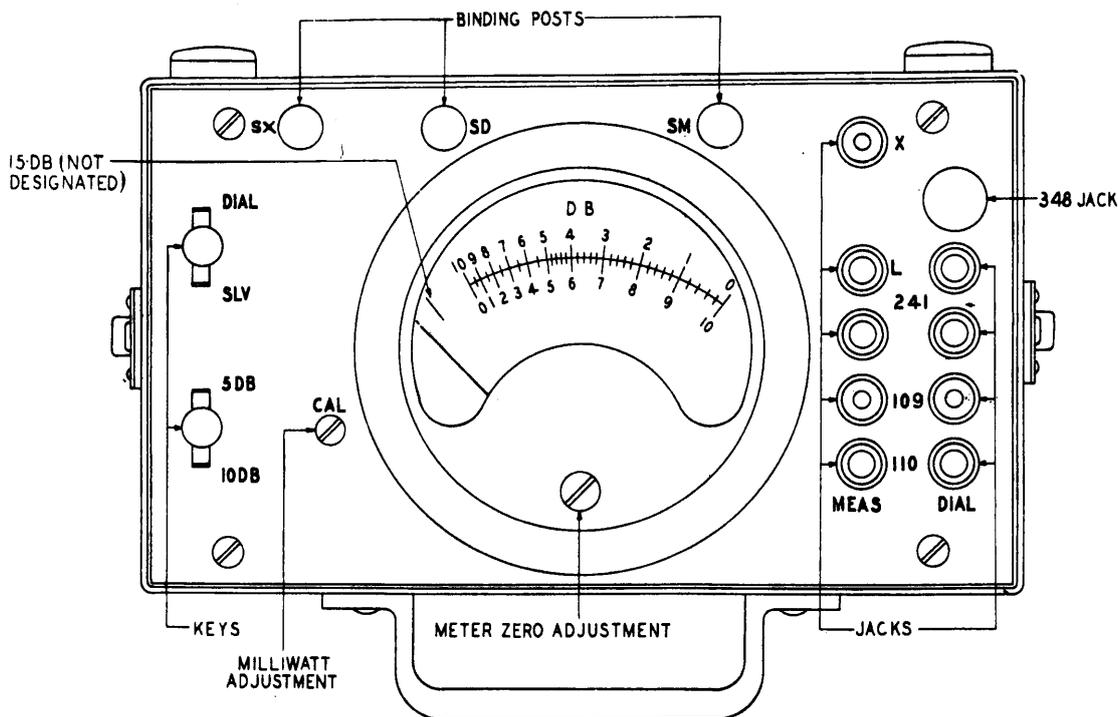

Fig. 1 - Face View of Measuring Set.
2.02 The face view of the measuring set panel is shown in Fig. 1. The equipment as shown consists of a meter, two lever type keys, three (see Paragraph 1.03) binding posts, ten jacks and an adjustable resistance for calibration.
4.02 The small arrow at the left of the meter scale indicates the correct position for the pointer of the meter for zero current input. The only time when the meter zero adjustment screw (see Fig. 1) should be adjusted is when, with zero current input, it is necessary to bring the pointer to accurate registry with this arrow.